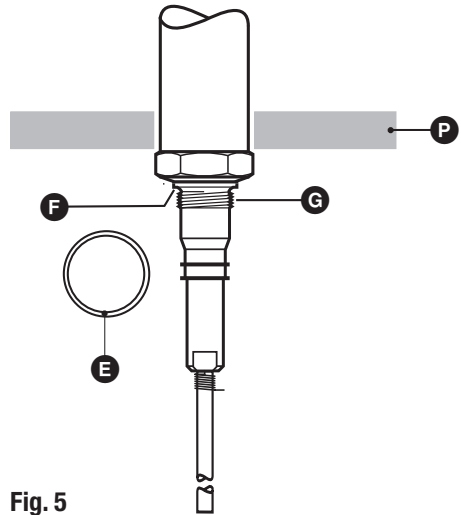

Fig. 5
2. Place ring joint **E** onto seating surface **F** of electrode, **Fig. 5, Fig. 9**
- Do not lag electrode body above the hexagonal section, **Fig. 5, Fig. 9**.